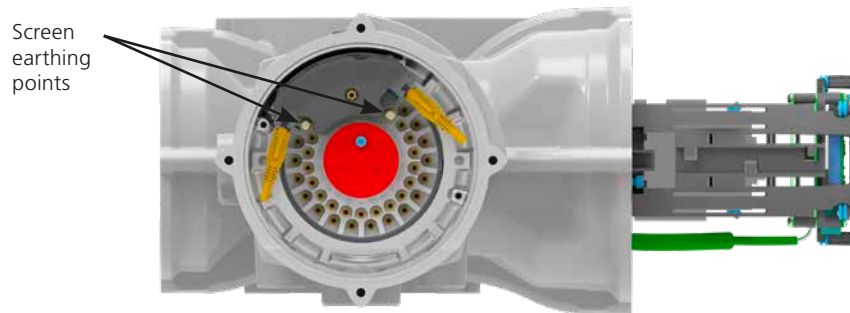

Fig 6: Screen earthing screw locations
- Ensure the screw is fitted to the screen earthing point for the Ethernet port(s) used, as shown in the diagram above (Fig 6)